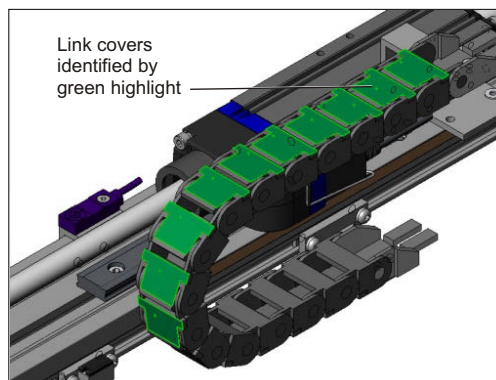

Figure 3.1
- Unclip the covers of all links in the drag chain. These are shown coloured green in Figure 3.1.